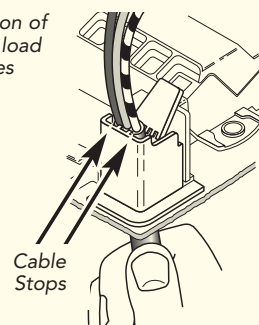

Figure 7b
- Continue pushing the cable through the clamp until the outer sheath reaches the cable stops. See fig. 7b. The jaws must clamp on the outer sheath.